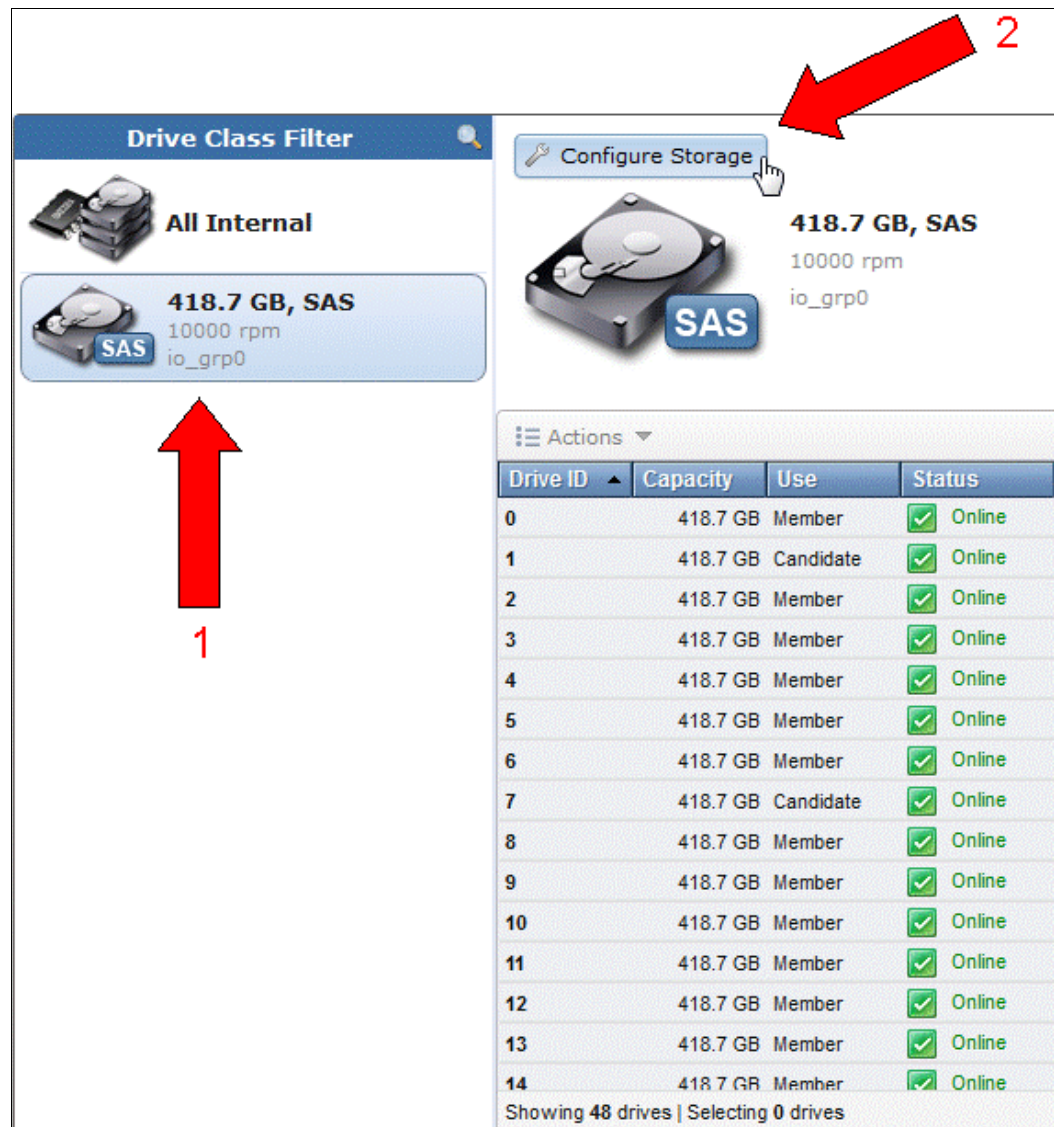

Figure 10-10 Configure Storage
- To create an MDisk with internal disks with IBM Storwize V7000 and IBM Storwize V7000 Unified, click **Internal Storage** to display the list of candidate internal disks. Select the appropriate Drive Class that you want to configure, for example, SAS disks for metadata and NL_SAS (or SATA) for user data. Then, click **Configure Storage** (Figure 10-10).